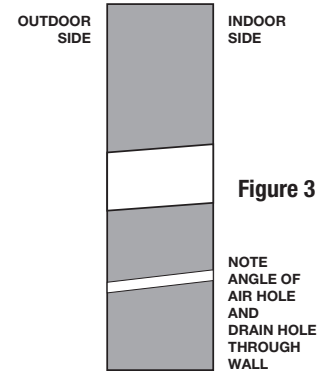

Figure 3
the removed materials may be discharged outward, so please be careful not to touch people or objects. Figure 3.
4. Drill 2 holes through wall (angle shown on figure 3) for the in and out air openings. Clean holes before installing the plenum. Apply caulking to the inside flange of the plenum and install the 2 plenums as shown in Figure 5, Seal plenum from the outside if accessible